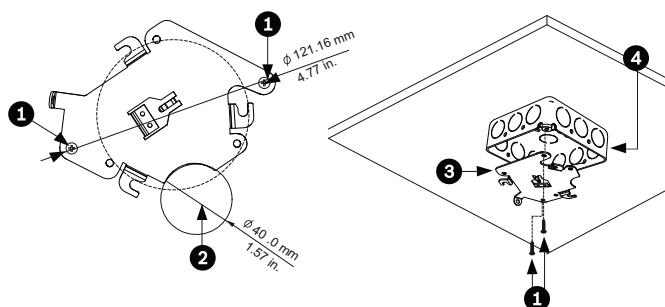

Figure 4.3 Install the Mounting Plate
- Secure the mounting plate to the junction box with the user supplied hardware (see *Figure 4.3*).
- Route wires on side of mounting plate with crescent shaped cut-out (Ref. #2 *Figure 4.3*).